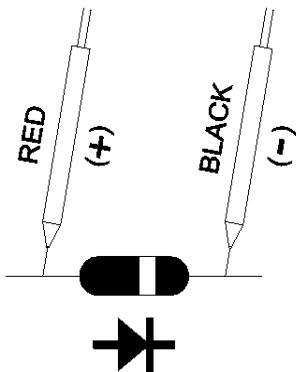

Fig.2
- 5) a. When connected with polarity as shown in Fig. 2, a forward current flow is established and the approx. Diode Forward Voltage (VF) value in volt will appears on the display reading. If the diode under test is defective, " 0.000 " or near " 0.000 " value (short circuit) " — — — " (open circuit) will be displayed.